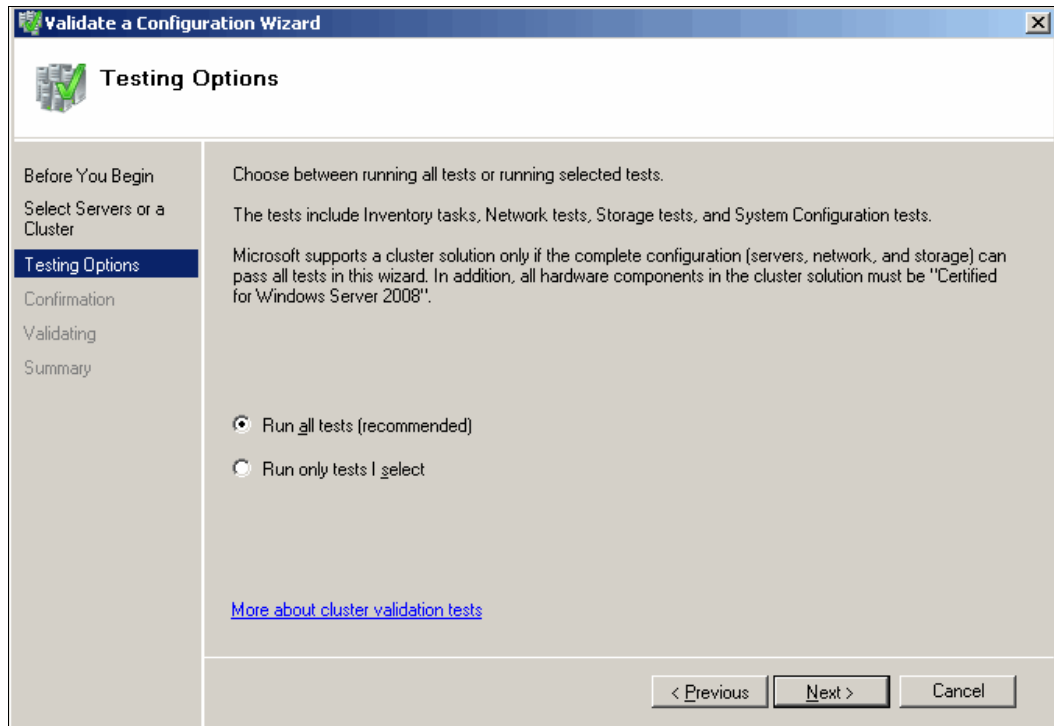

Figure 19-15 Testing Options
- Follow the instructions in the wizard to specify the two servers and the tests, and then run the tests. To fully validate your configuration, run all tests before creating a cluster. Select the Testing Options (in our example, we selected Run all tests) to run the tests as shown in Figure 19-15 on page 569 and click **Next**.